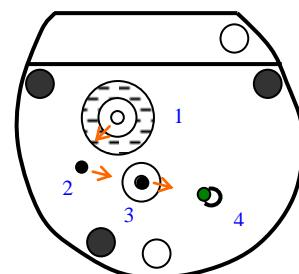

Figure 23: gear 2 on spindle 2
A 2.3 Slide small gear (3) **flat side down** onto the middle spindle. (**Fig. 23**)